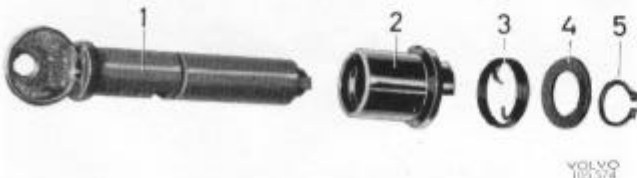

Fig. 8-19. Door lock push button dismantled
2. Remove the circlip (5, Fig. 8-19). The lock cylinder can then be taken out of the push button.